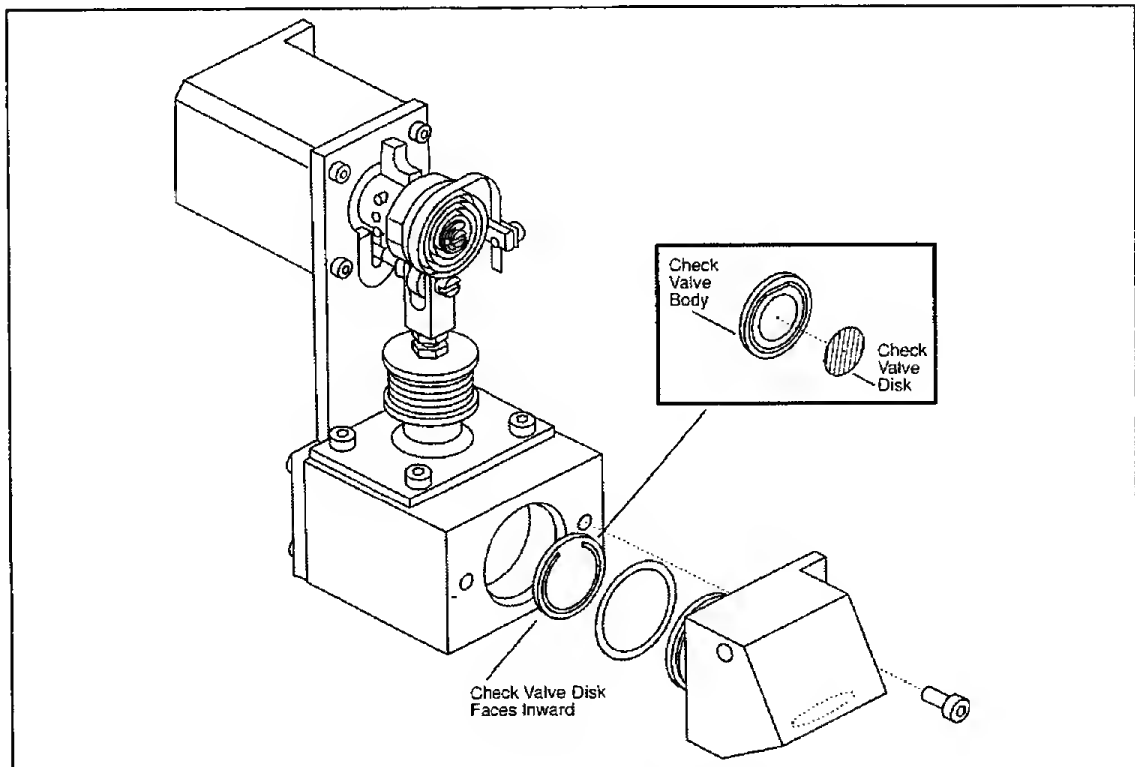

Figure 7-20: CV4 Check Valve Orientation
2. Check that the CV4 check valve is oriented and seated properly (see Figure 7-20). **Important: CV4 must be oriented as shown in Figure 7-20.**